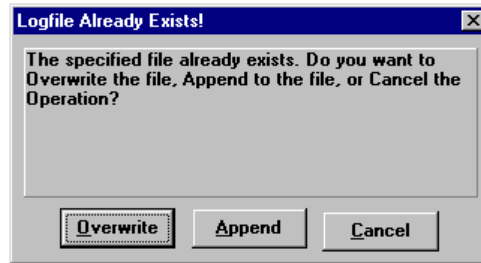

Figure 6-12. Logfile Already Exists Window
- If a logfile that already exists is chosen, the **Logfile Already Exists** window (**Figure 6-12**) appears, asking if the user wants to overwrite the existing file or append the status messages to the end of the existing file. Choose **OVERWRITE** or **APPEND** to begin logging in the file or **CANCEL** to close the dialog without opening the logfile.